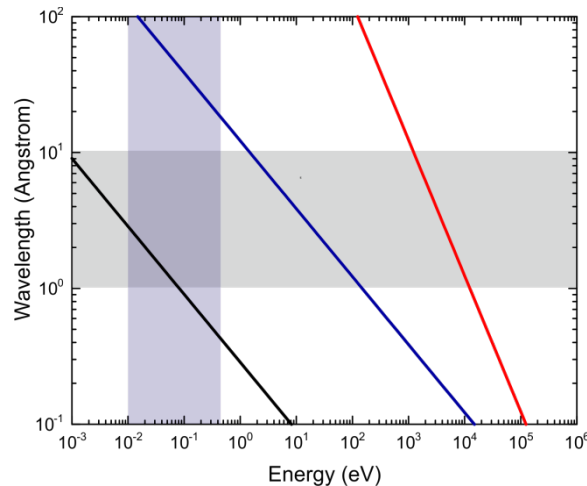

Figure 5: Relationship between energy and wavelength for different probes.
- 2) The relationship of $\lambda(E)$ for electrons, neutrons, and x-rays is summarized in Fig. 5. Assign the different particles to each curve! What is the reason for the different slopes? What particular scales do the shaded regions correspond to?